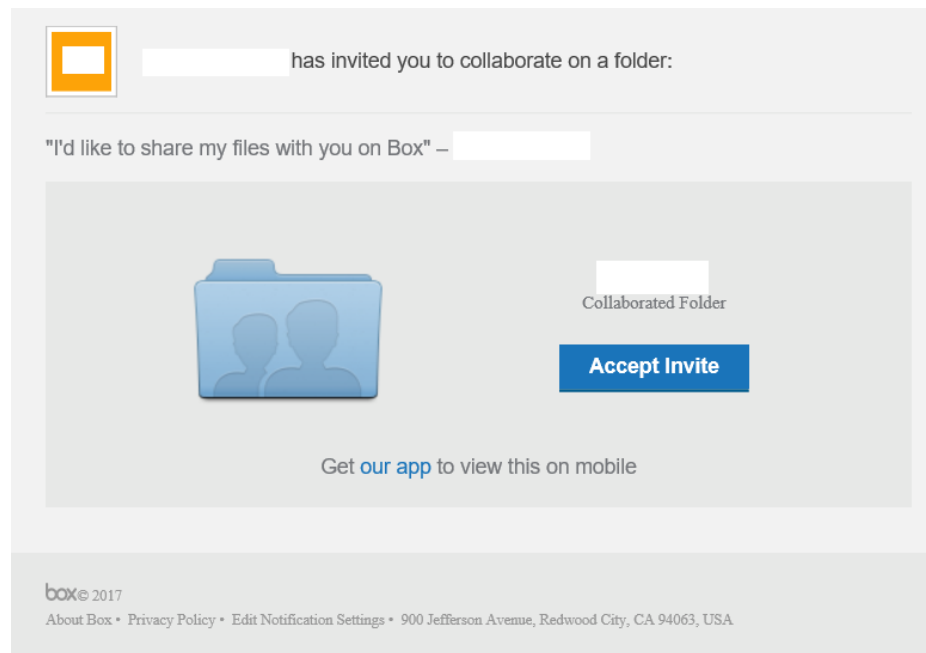

Figure 3: Email invitation
- 6.4.2. Once all collaborators have been entered, click 'Ok,' and emails will be triggered to those contacts notifying them of your invitation (see Figure 3). Once they log into their Box account, they will be able to accept or reject your invitation to collaborate on that folder.